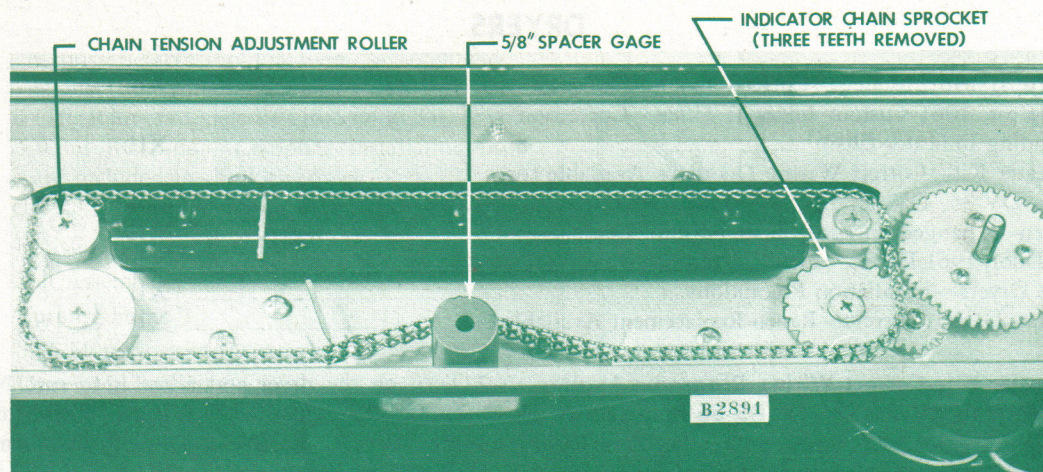

Figure 26
1. Remove three teeth from the timer indicator chain sprocket as shown in Figure 26.
ment roller is loose and then insert a piece of 5/8" O.D. pipe, wood dowel or metal rod, between the bottom of the chain and the control mounting plate flange as a spacing gage as shown in Figure 26.